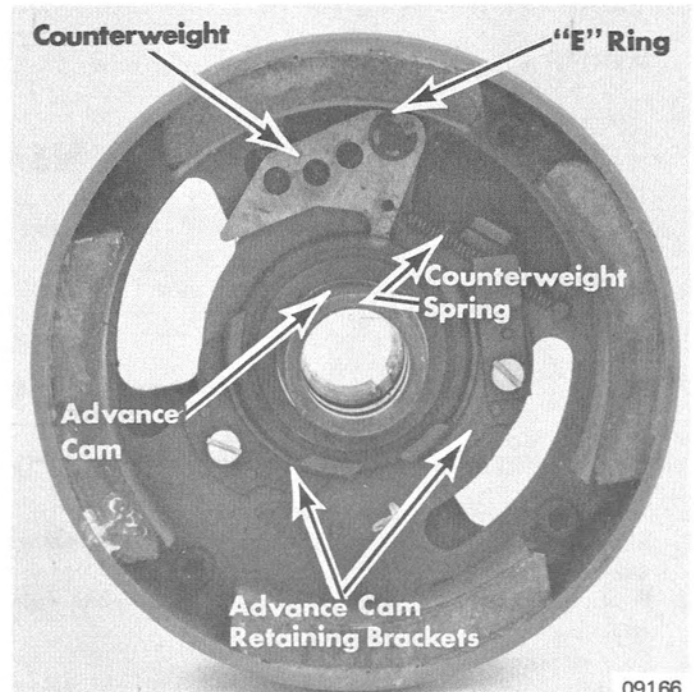

Figure 2. Centrifugal Advance Mechanism
2. Remove screws which secure advance cam retaining brackets to flywheel. (Figure 2) Lift retaining brackets and advance cam from flywheel.
3. Remove "E" ring which holds counterweight to flywheel stud. (Figure 2)
2. Install brass washer, counterweight and counterweight spring in position in flywheel. (Figure 2)
3. Secure counterweight with "E" ring. (Figure 2)